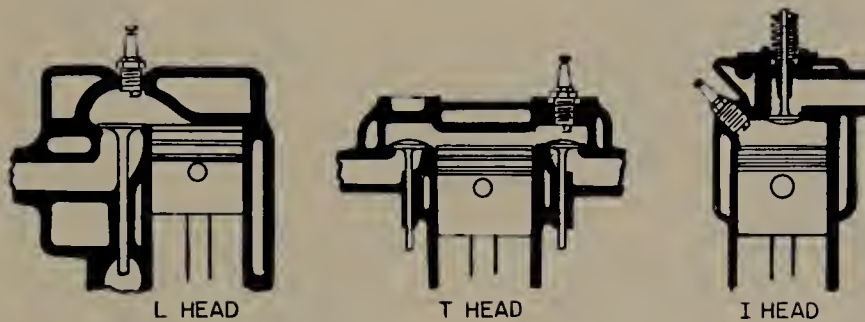

FIGURE 4.16 Sectional views of three types of engine heads—showing three valve arrangements.
4.10 T-Head Engine. A few small engines have been made with the T-head arrangement. See Fig. 4.16, which compares the L-head, T-head, and I-head arrangements. In the T-head arrangement, two camshafts are required, one for each side of the engine. One of the valves is the intake valve, the other the exhaust valve. As you can see, the combustion chamber and cylinder form a "T."